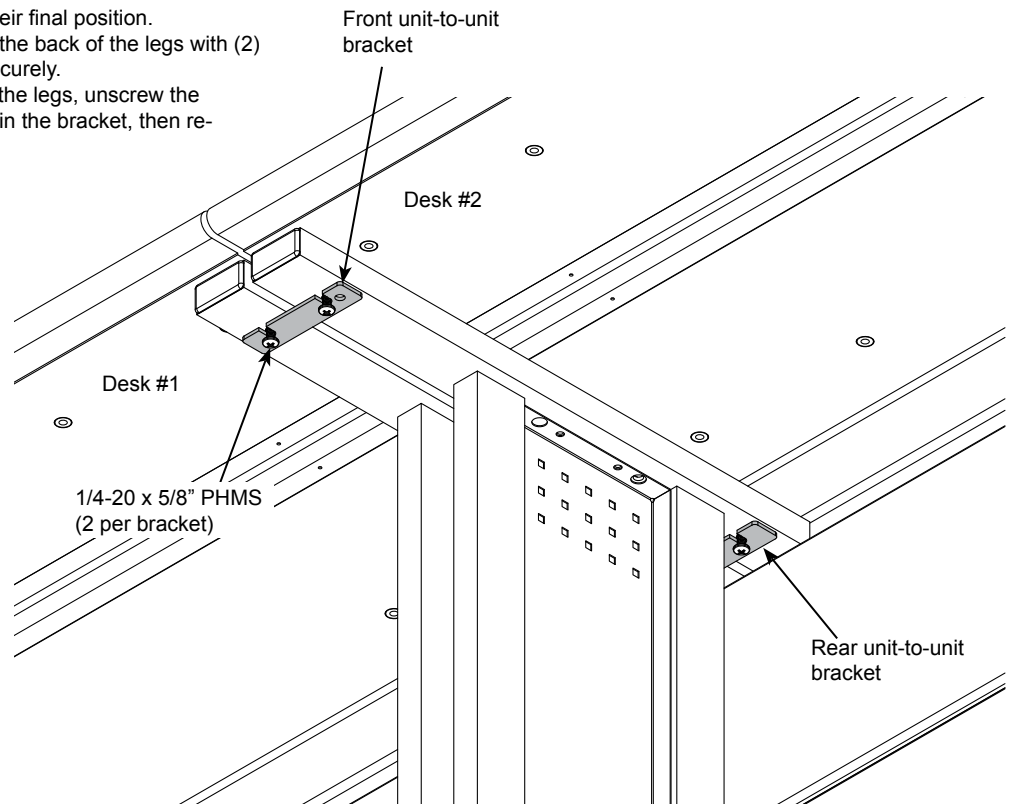

Figure 4
Two desks can be attached together with (2) of the included unit-to-unit brackets and (2) 1/4-20 x 5/8" PHM screws. **Figure 4.**
2. Attach one of the unit-to-unit brackets to the back of the legs with (2) 1/4-20 x 5/8" PHM screws and tighten securely.